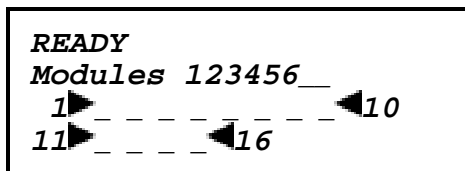

Figure 2-23 Default Screen
1. Turn the system on*, and wait until the Power-On Self Test terminates and the default screen appears on the display. Figure 2-23 shows a typical default screen. Yours may vary depending on the number of modules in your system, as shown in the second line.
1. As shown in Figures 2-23 through 2-25 in the preceding procedure, navigate from the Default Screen through the Main Menu to the Configure Submenu.
1. As shown in Figures 2-23 through 2-25, navigate from the Default Screen through the Main Menu to the Configure Submenu.